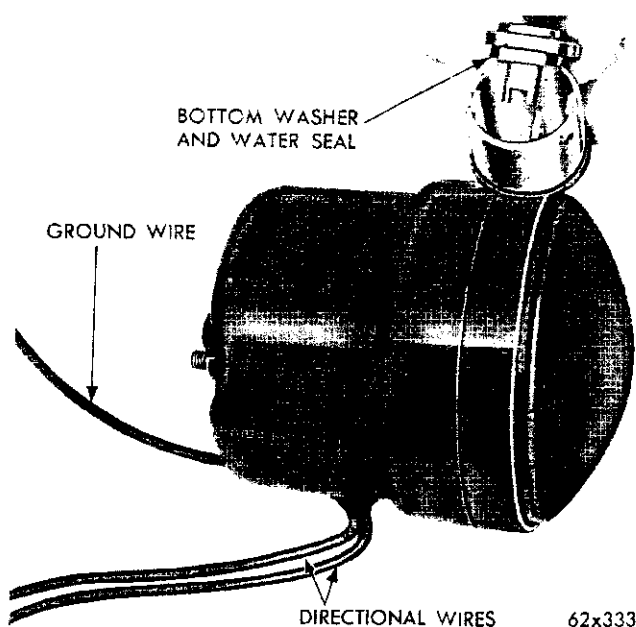

Fig. 14—Removing Bottom Insulator and Water Seal Washer
(7) Remove the "bottom insulator" and "water seal washer" (Fig. 14) from the "tabular fitting" using a wire hook and long nose pliers.